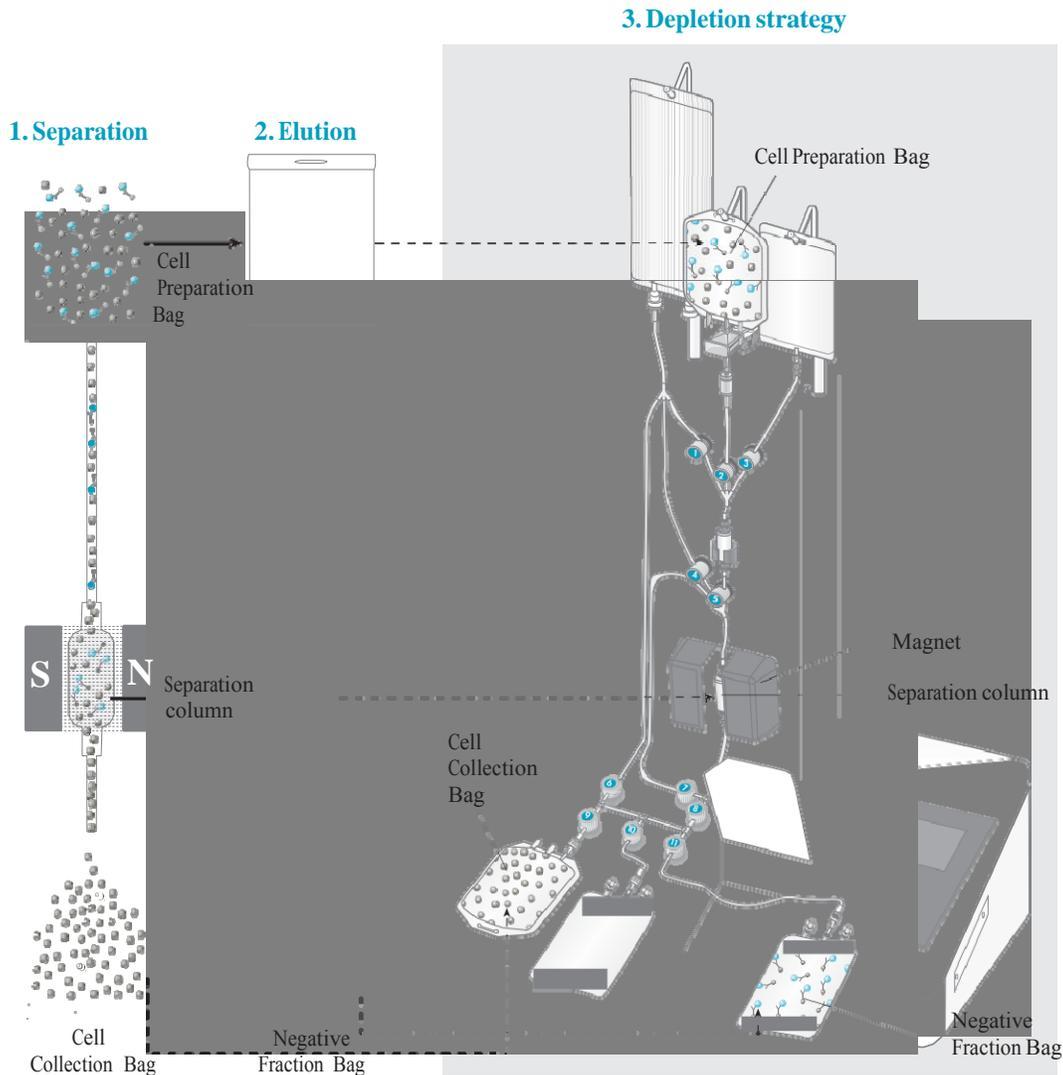
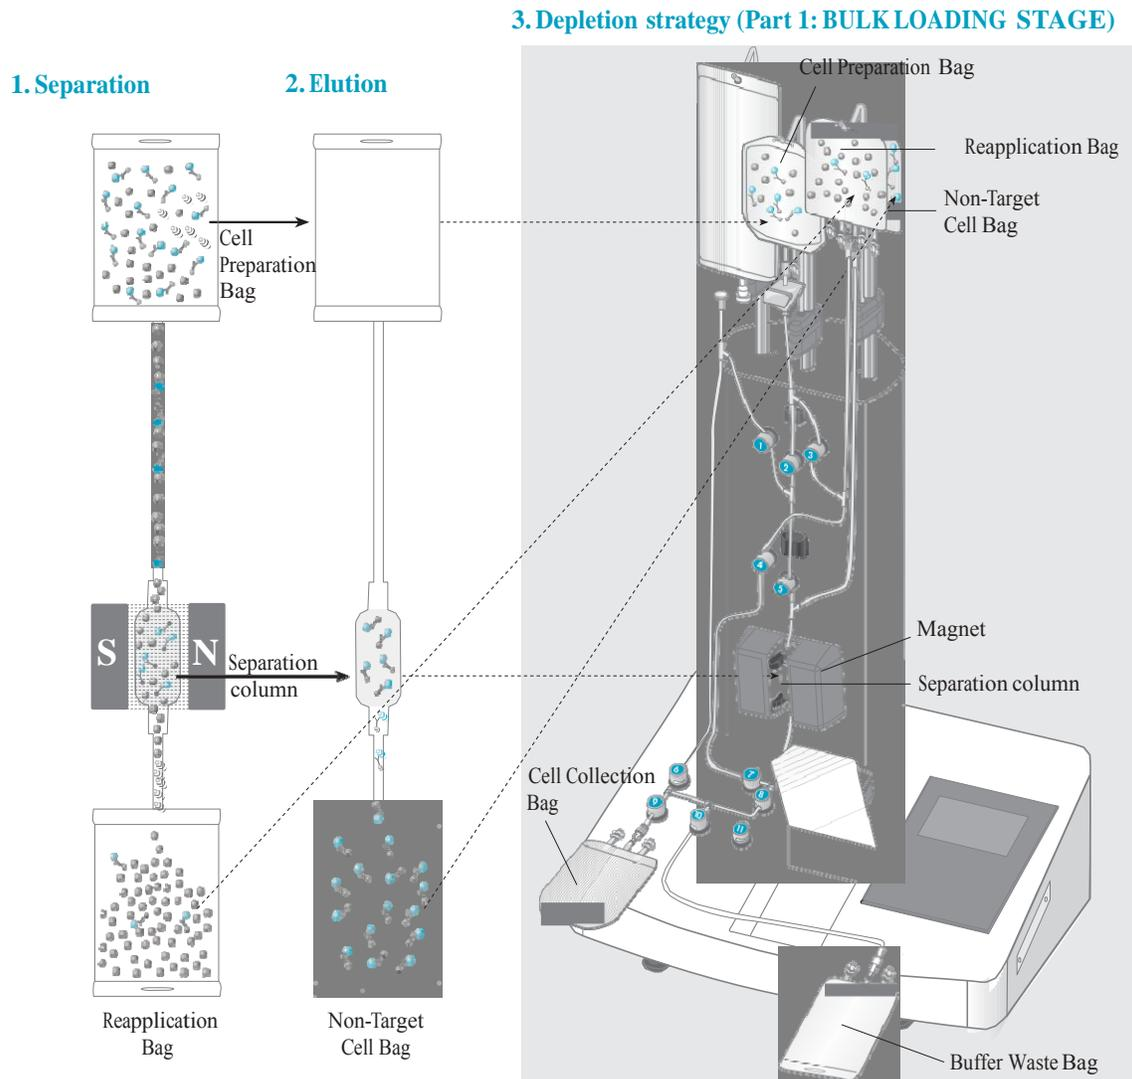
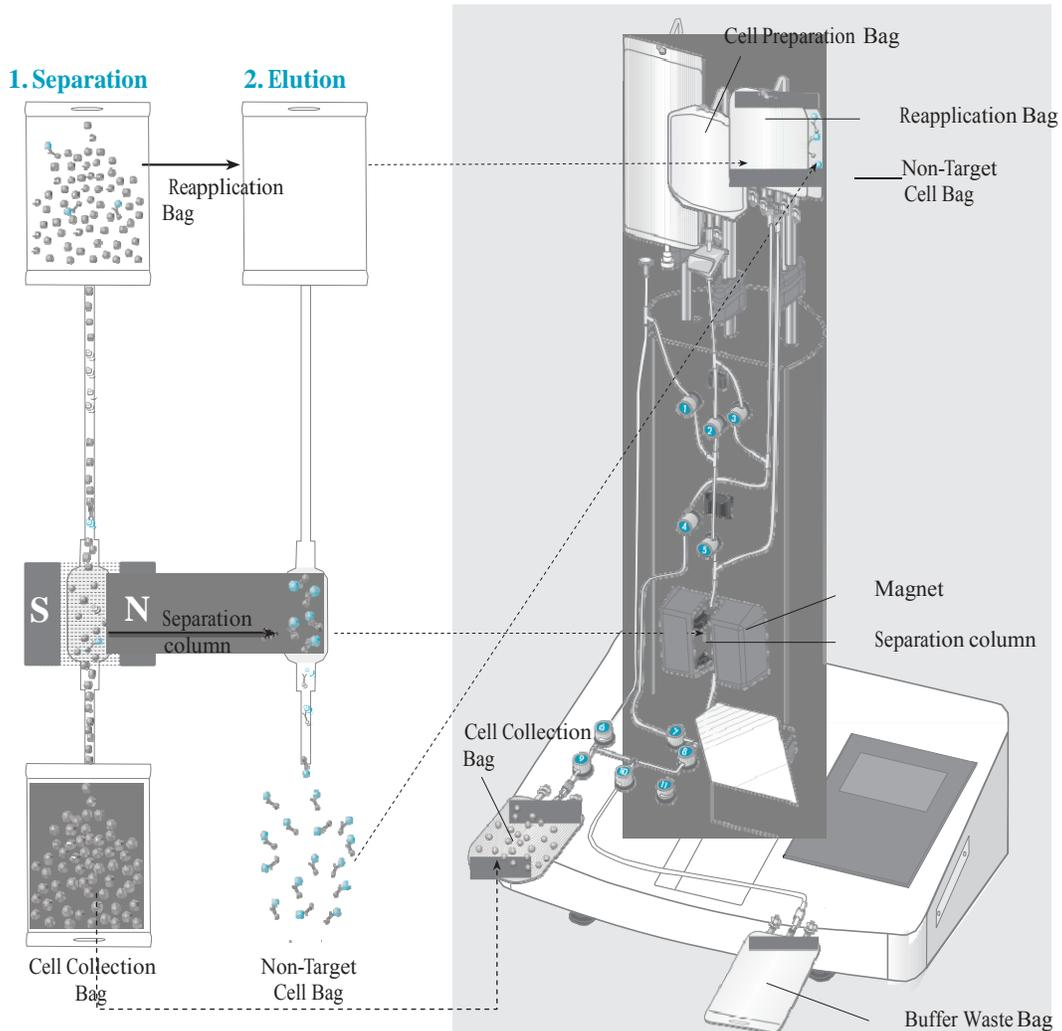

Fig 3.11: Strategy of the depletion program DEPLETION 2.1 using the CliniMACS® Tubing Set LS
Fig 3.12: Strategy of the depletion program DEPLETION 3.1 using the CliniMACS® Depletion Tubing Set (Part 1: BULKLOADING STAGE)
Fig 3.13: Strategy of the depletion program DEPLETION 3.1 using the CliniMACS® Depletion Tubing Set (Part 2: SENSITIVE LOADING STAGE)
The MACS® Technology is also very efficient for depleting specific cell populations. Unwanted cells are specifically labeled with superparamagnetic particles and separated from target cells upon passage through the high-gradient magnetic column. In contrast to the enrichment strategy, the **non-labeled cells** (target cells) are collected **in the Cell Collection Bag** and the **labeled cells** (non-target cells) are collected in the **Negative Fraction Bag** (see Fig. 3.11) or in the **Non-Target Cell Bag** (see Fig. 3.12 and Fig. 3.13) respectively.
3. The **depletion program** (DEPLETION 3.1) retains the magnetically labeled cells in the separation column, the **non-labeled target cells** (target cells) flow through the column and are collected in the **Reapplication Bag** in order to be reloaded onto the separation column in a second SENSITIVE LOADING STAGE (see Fig. 3.13). When the magnet is moved into the “OFF”-position, the **magnetically labeled cells** (non-target cells) are released from the column and collected in the **Non-Target Cell Bag**.